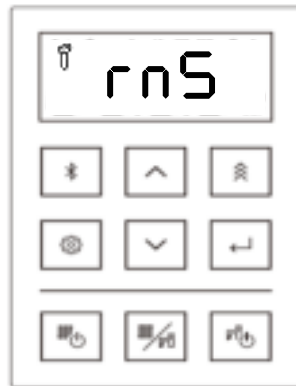

Figure 136
10. After 60 minutes flushing time completes, display shows “rnS” (rinsing) (Figure 136) and beeping sound is observed.